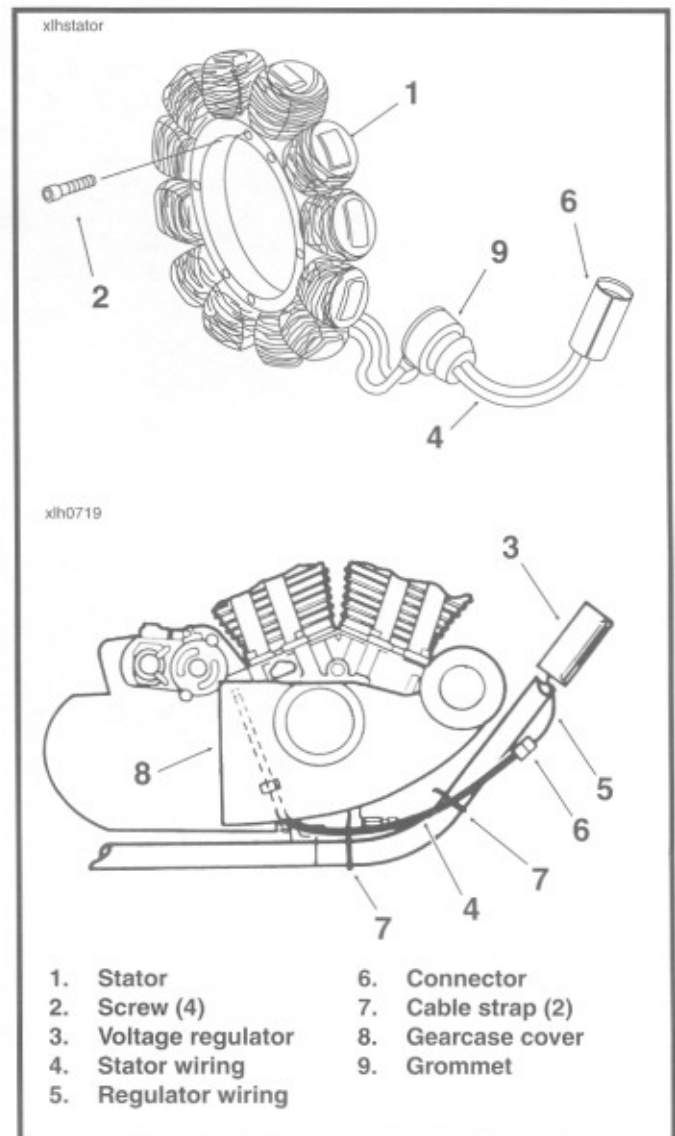

Figure 7-48. Stator Assembly and Stator Cable Routing
Stator (Figure 7-48)
1. See Figure 7-48. Feed stator wiring (4) with attached grommet (9) into open grommet hole in left crankcase half.
2. Apply a light coating of clean engine oil or chaincase lubricant to grommet (9). Install grommet into hole in left crankcase half.